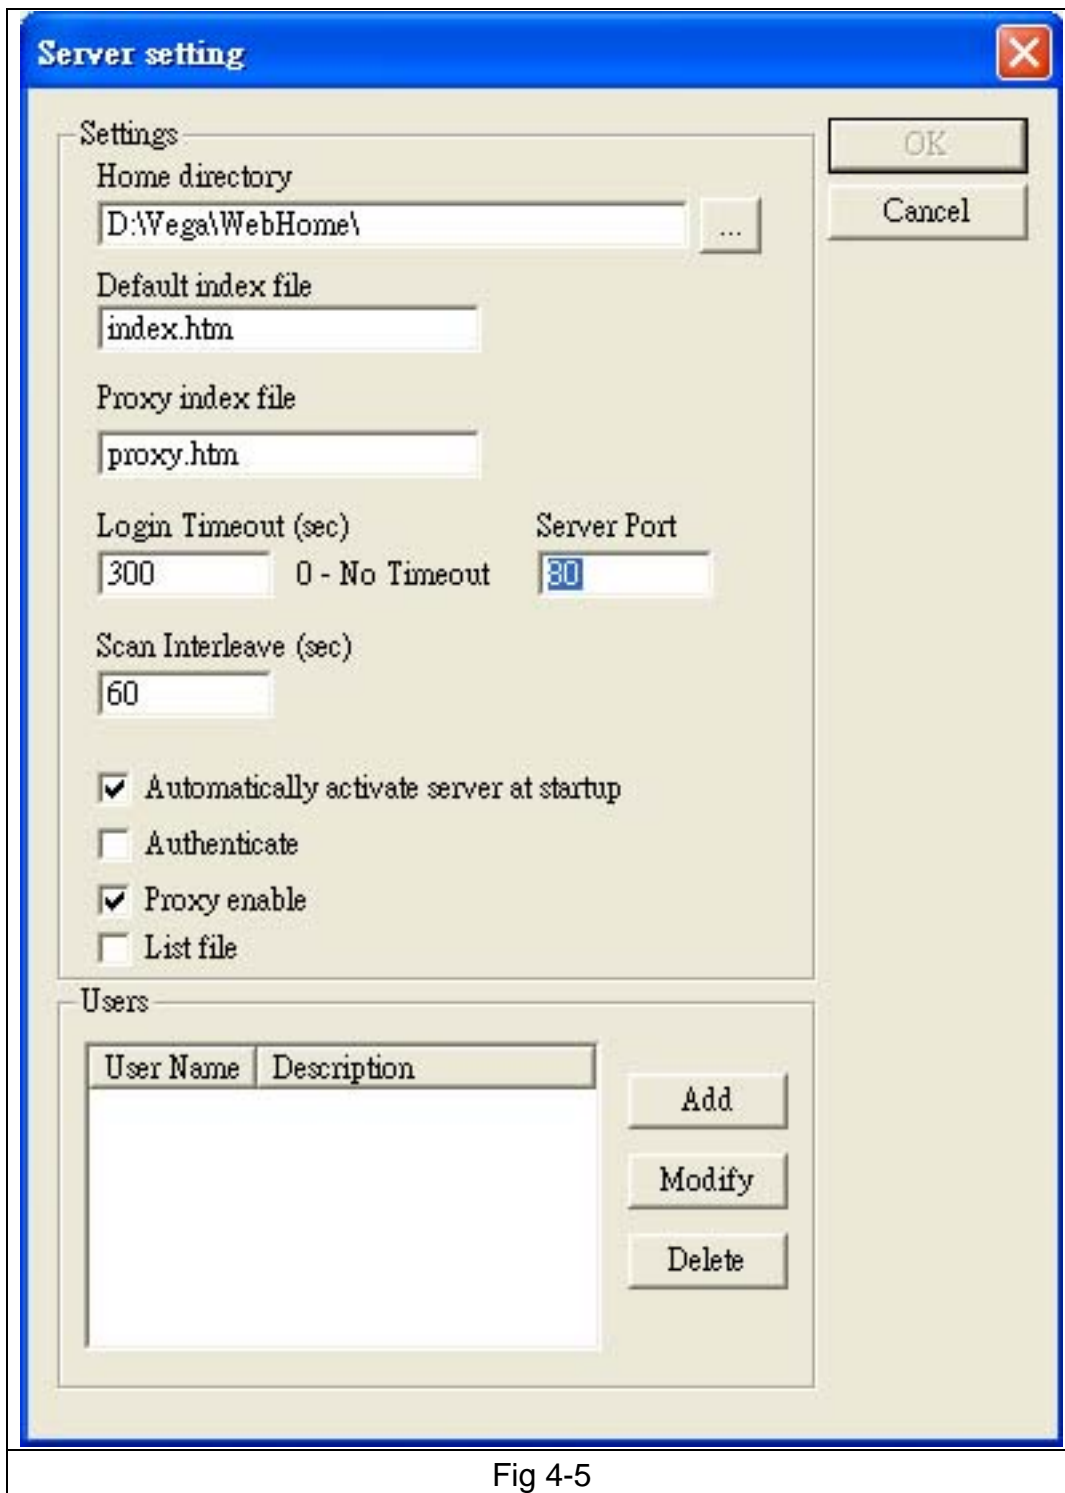

Fig 4-5
D. Click on the "**Server Setting**" icon, the following window will show.(Fig 4-5)